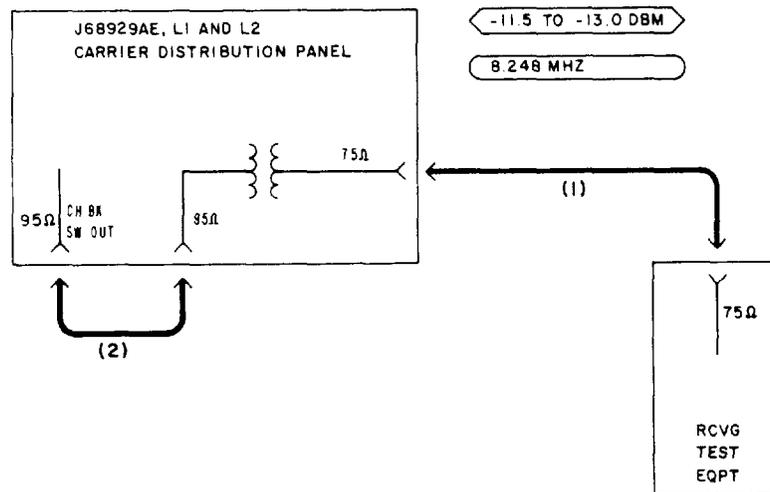

Fig. 7—Patching Diagram—Channel-Bank-Carrier Test—Regular Carrier Supply
30 Connect the 95Ω jack to the CH BK SW OUT jack [patch (2), Fig. 7].
- 33 Remove patch (2), Fig. 7.